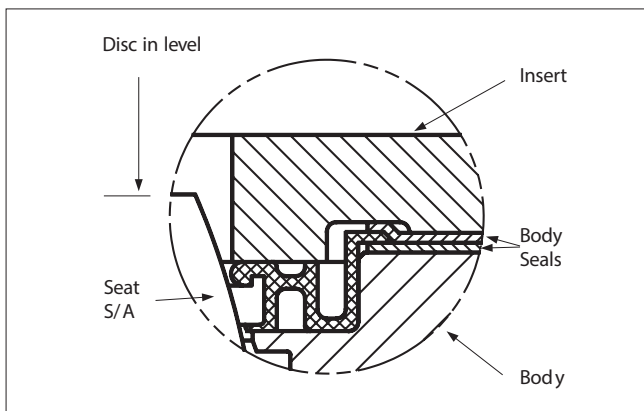

Figure 4.
Numbers in () refer to items shown in Figures 4, 8, & 9.
2. Remove insert screws (21). Using a wooden or plastic rod and hammer, drive the insert out of the body from the shaft side. Do not strike the valve directly with a hammer.
3. Remove the seat (5) and discard. Remove the body seals (40) from the insert and body.
9. Two graphite gasket style body seals (40) are required. One is between the body and the seat tail, the other is between the insert and the seat tail, as shown in **Figure 4**, p.5. These should be installed in accordance with the following step.
10. Verify that the disc is in the level position. Install new seat, second gasket, and insert. See **Figure 4**. Install the insert screws. Lubricate stainless steel insert screws when assembled in stainless steel bodies. Lubricant must be compatible with media in the pipeline. Tighten screws uniformly to the torque values in **Table 1**.